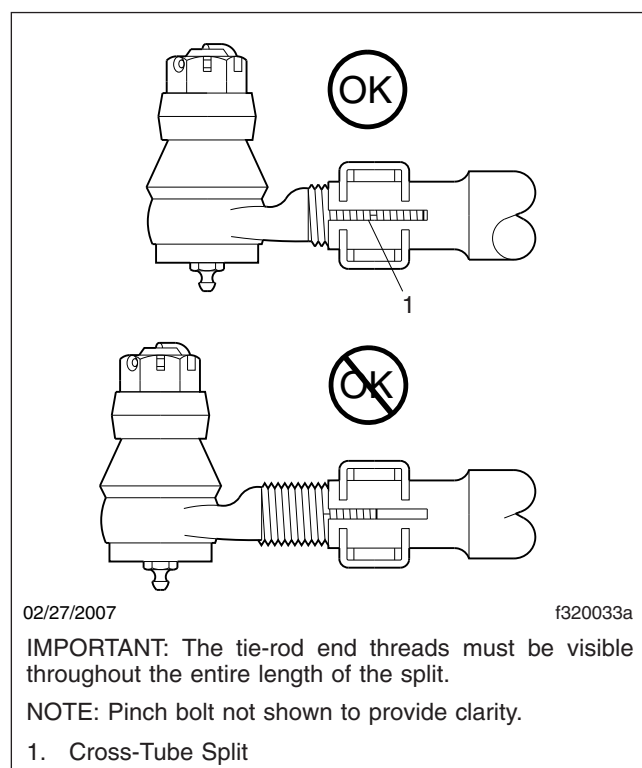

Fig. 5, Tie-Rod End Adjustment
- 2.2 The threaded portion of the tie-rod end assembly must be inserted all the way into the cross-tube split for adequate clamping. See Fig. 5. Replace the parts if this cannot be done. For instructions, see the axle manufacturer's service manual.